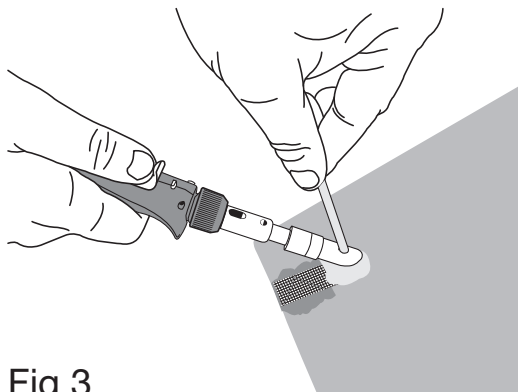

Fig 3
- Refer to Fig 3. Heat up the adjacent area with the welding head before applying the filler. The filler rod is melted and applied to the job by inserting through the aperture in the welding head.
- When finished, the welding head can be cleaned up using both the included wire brush (5) and cleaning rod (6).